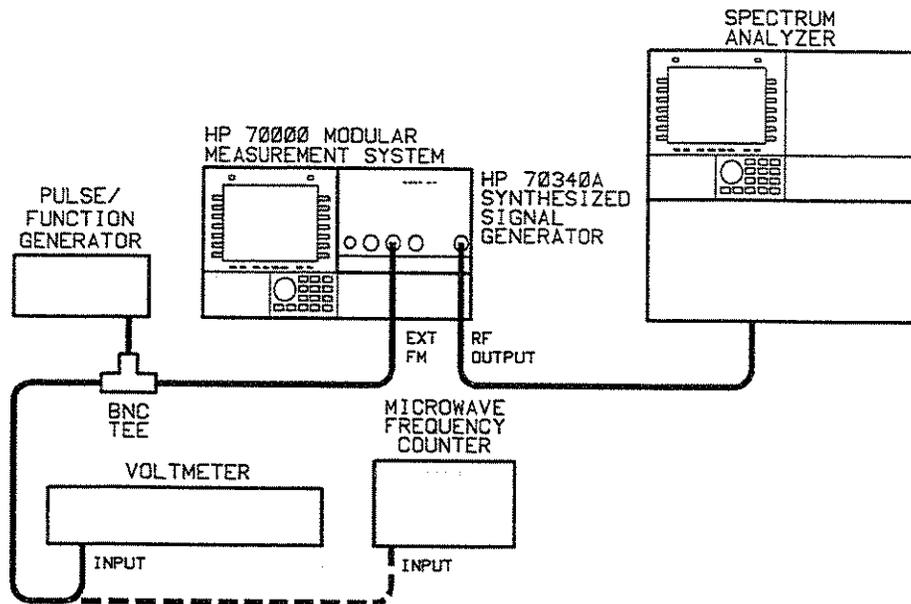

Figure 1-21. FM Rate and Flatness Test Setup
1. Connect the equipment as shown in Figure 1-21.